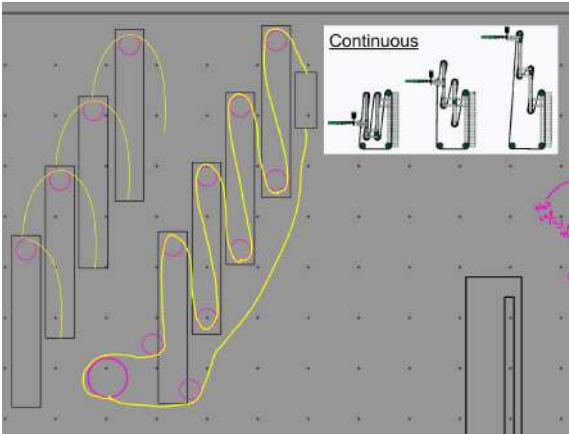

Figure 1: Sketch of Continuous Lift with Reference
- A rope would be used to move the lift with the motors, as seen in the sketch of figure 1 below